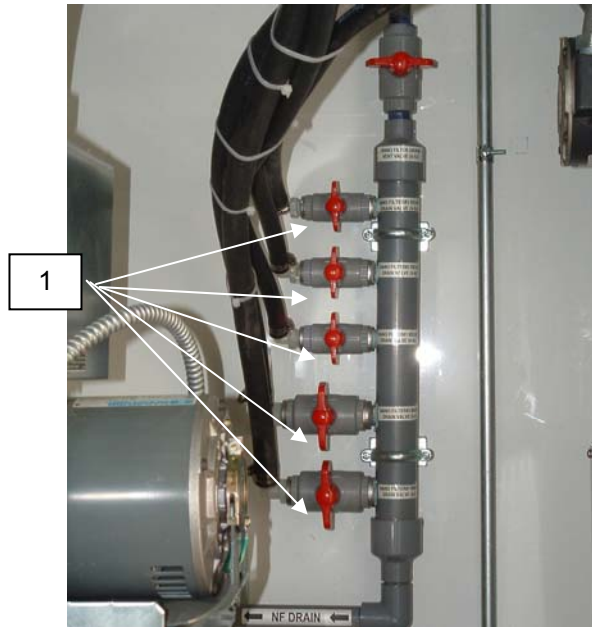

Figure 3. Close Drain Valves.
Nanofilters have gaskets fitted to one end. Refer to Figure 3 for gasket placement.
13. Close drain valves (**Figure 3, Item 1**) and monitor system operation.